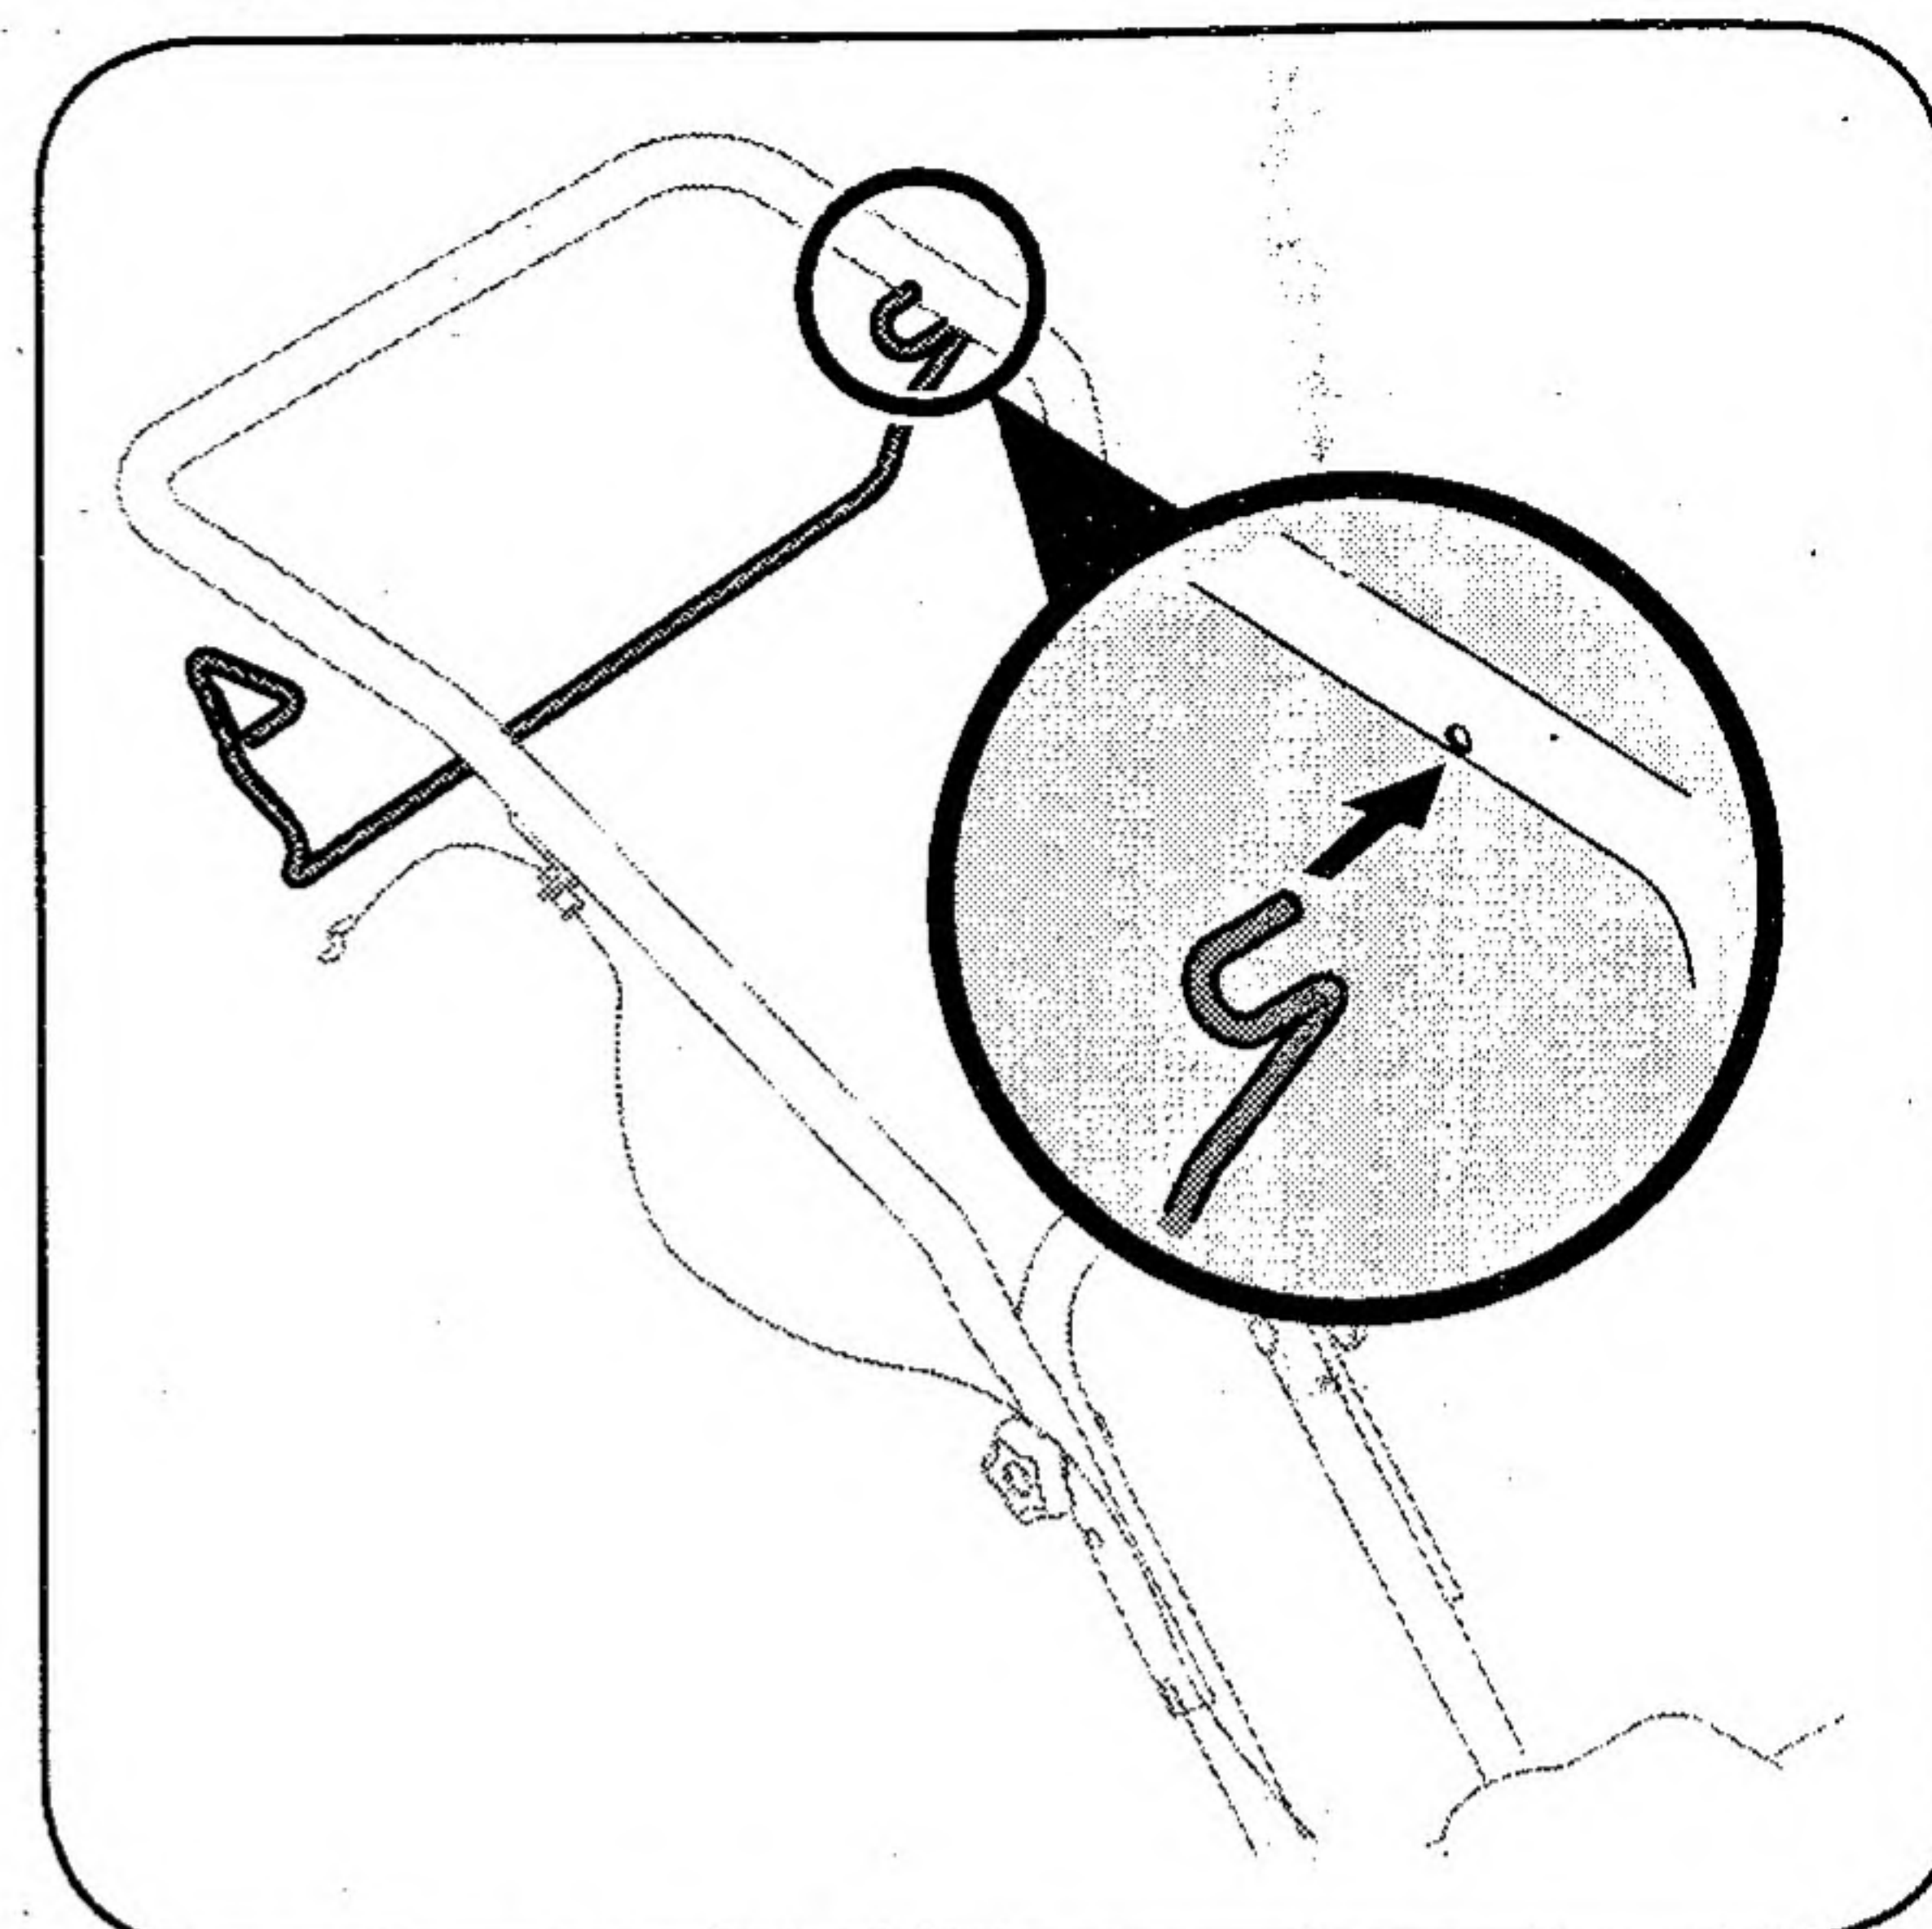

Figure 3-3: Install left side of the tine clutch control.
4. Insert left end of tine clutch control into the hole on the left side of the upper handle, Figure 3-3.